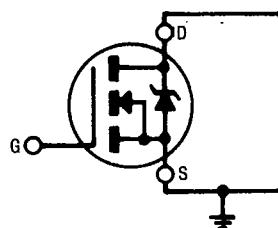
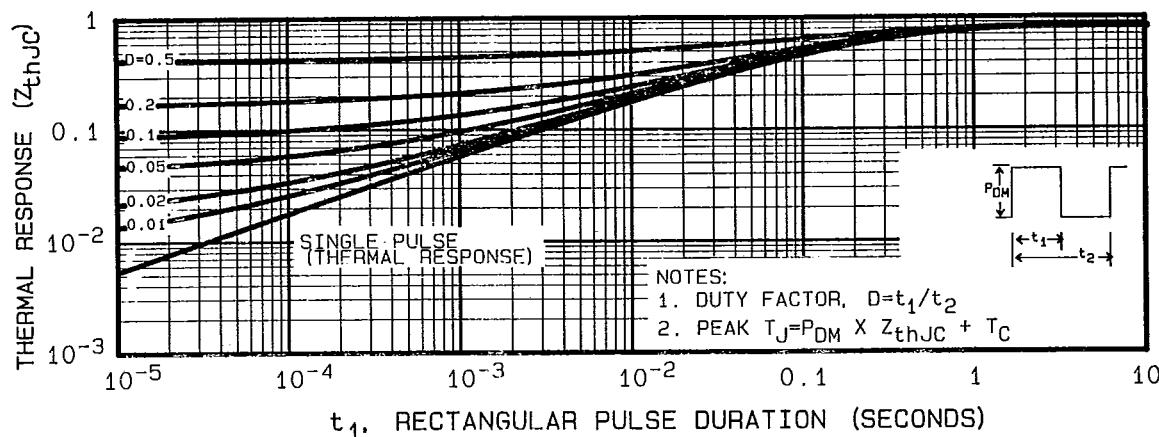

Fig. 11a — Gate Stress of  $V_{GSS}$  Equals 12 Volts
Fig. 17 — Maximum Effective Transient Thermal Impedance, Junction-to-Case Vs. Pulse Duration
The two test circuits used during low dose rate exposures are shown in figure 11. The first test circuit biases the gate electrode at 12 volts with respect to the drain and source electrodes (see fig. 11a). In general, a
② Repetitive Rating; Pulse width limited by maximum junction temperature (see figure 17).
③ @  $V_{DD} = 50V$ , Starting  $T_J = 25^\circ\text{C}$ ,  $L = 1.6 \text{ mH}$ ,  $R_G = 250\Omega$ , Peak  $I_L = 38A$ .
④  $I_{SD} \leq 38A$ ,  $di/dt \leq 200 \text{ A}/\mu\text{s}$ ,  $V_{DD} \leq BV_{DSS}$ . Suggested  $R_G = 6.2\Omega$ .
⑤ Pulse width  $\leq 300 \mu\text{s}$ ; Duty Cycle  $\leq 2\%$
⑥ High Total Dose Irradiation with  $V_{GS}$  Bias. +12 volt  $V_{GS}$  applied and  $V_{DS} = 0$  during irradiation per MIL-STD-750C, method 1019. (See figure 11a)